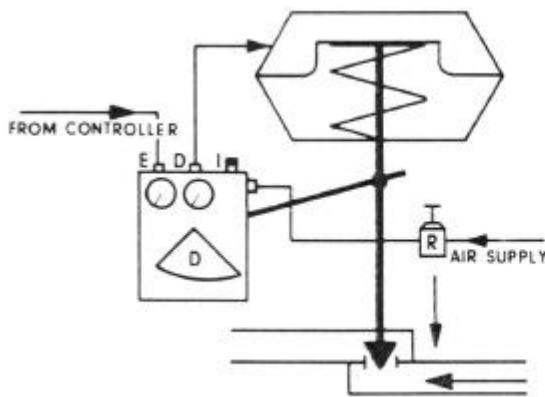

Fig.4
- 4.1 - Referring to Figs. 4, 5, 6, and 7 attach to the positioners the fittings or the plugs on respective connections.